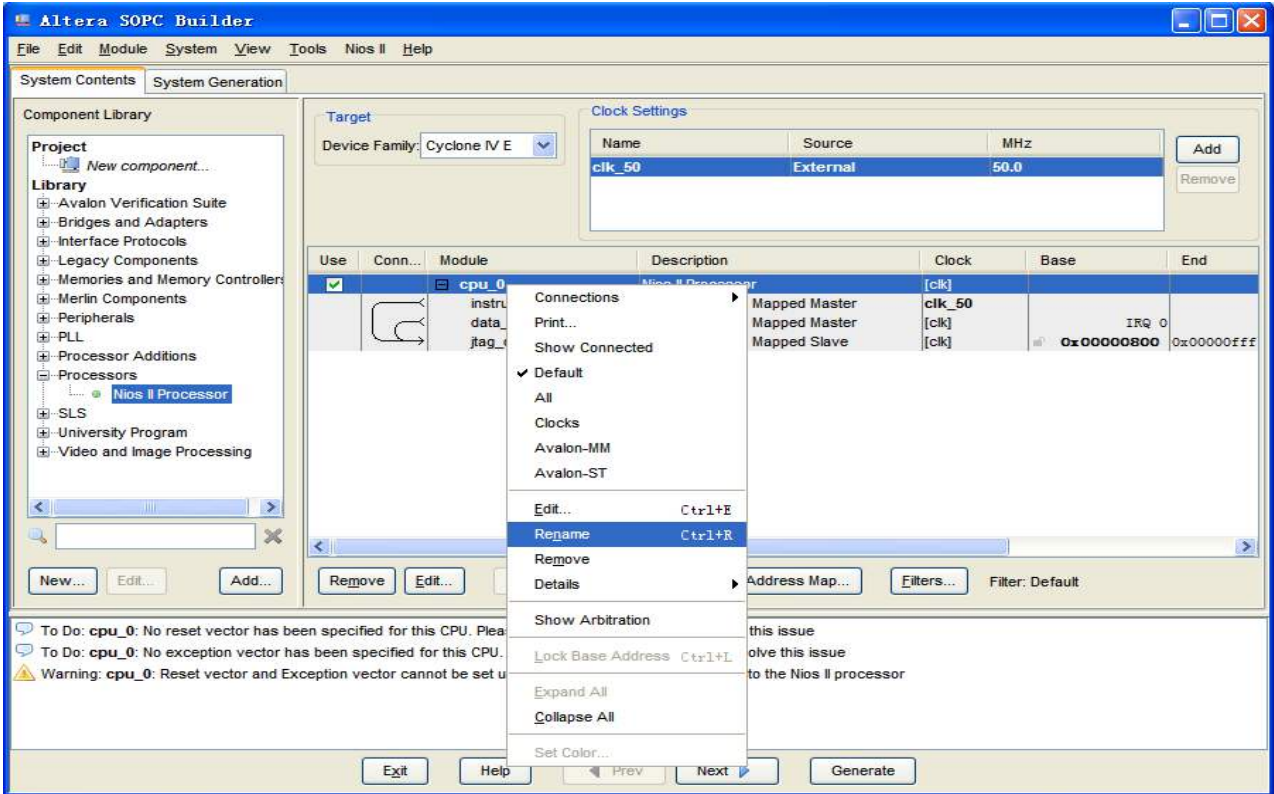
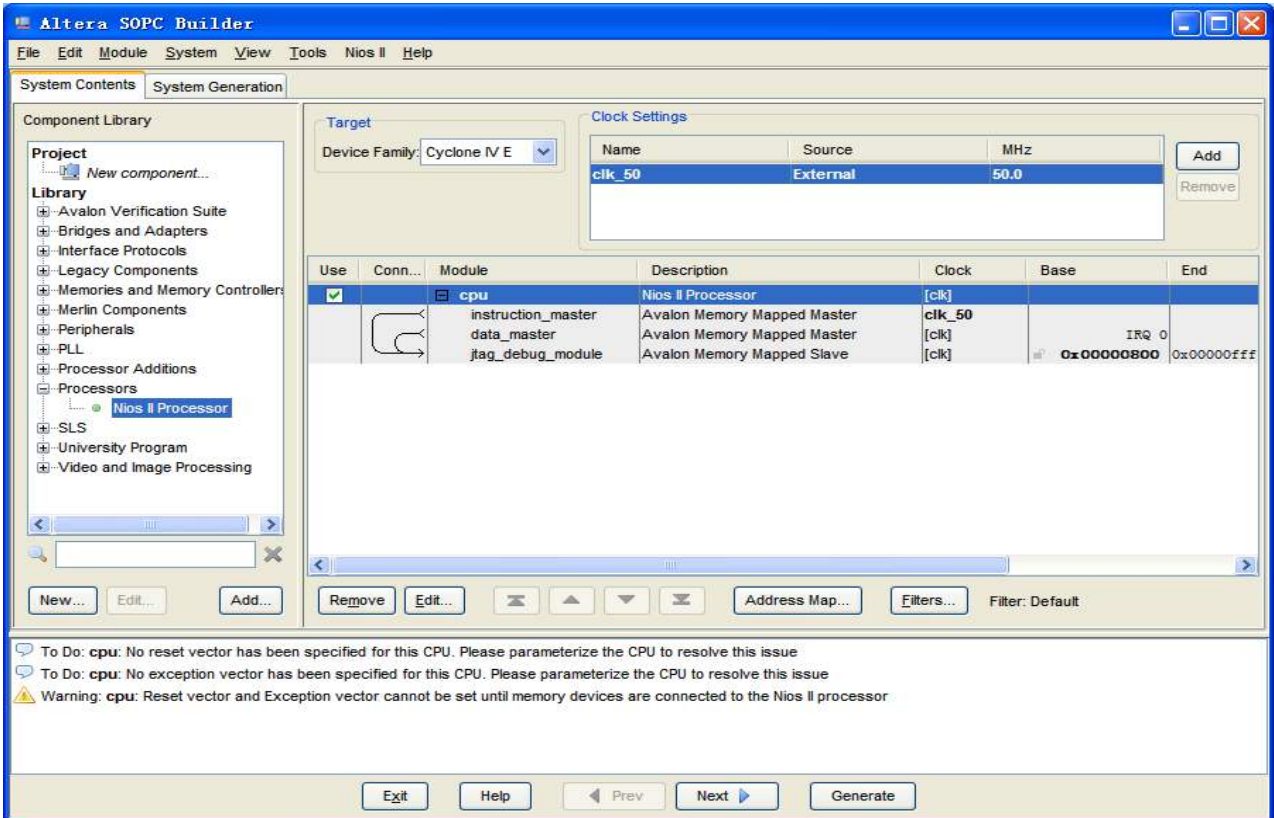

Figure 7-17 Rename the CPU (1)
Figure 7-18 Rename the CPU (2)
10. Select the **cpu_0** component and right-click then select rename, after this, you can update **cpu_0** to **cpu**, as shown in Figure 7-17 and Figure 7-18.